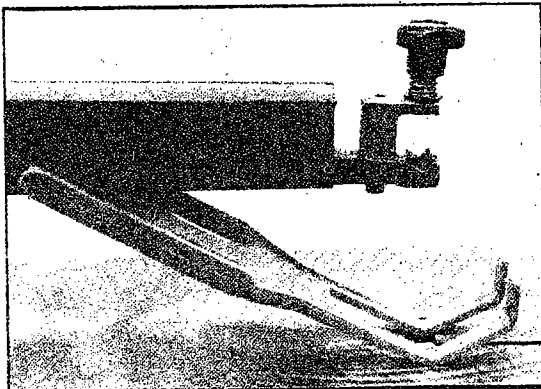

FIGURE 7
2. Place a "V" type blade clip in groove on the upper rocker arm with clip slot position towards the front for easy access and installation. See Figure 7.